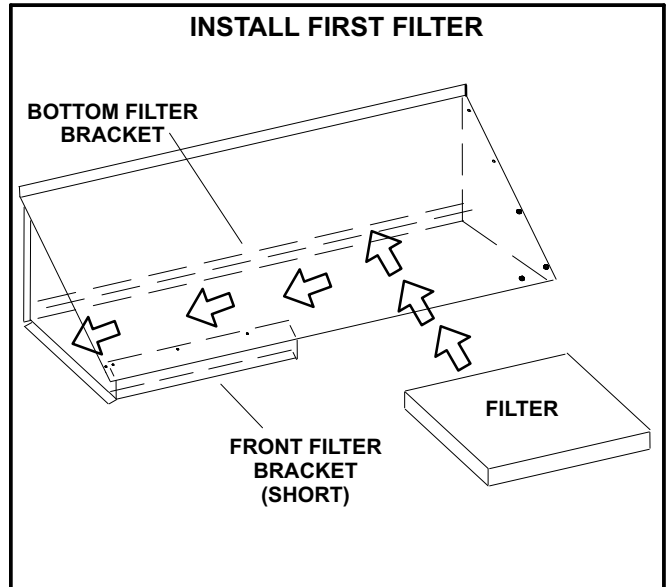

FIGURE 12
- 8- Insert filter into the bottom filter bracket. Slide filter to the left into the shorter front filter bracket. See figure 12.